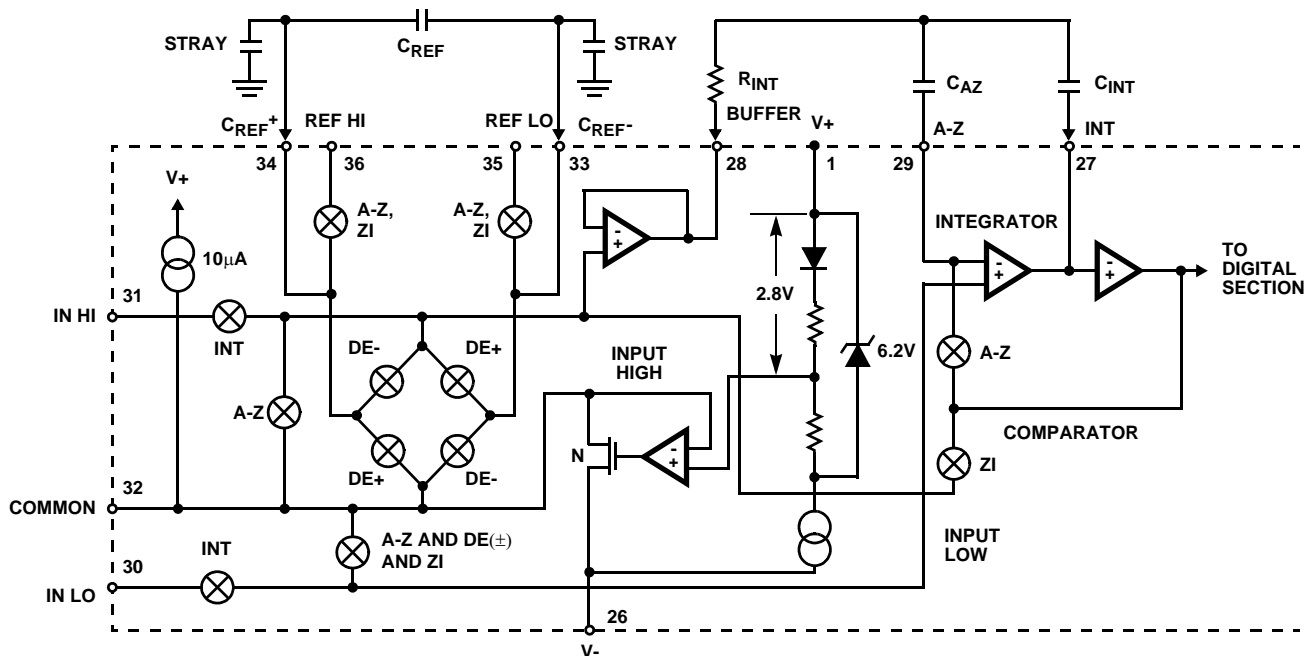

FIGURE 2. ANALOG SECTION OF ICL7136
Figure 2 shows the Analog Section for the ICL7136. Each measurement cycle is divided into four phases. They are (1) auto-zero (A-Z), (2) signal integrate (INT) and (3) de-integrate (DE), (4) zero integrate (ZI).